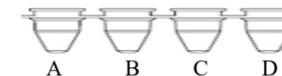

Figure 1 Diagram of the 4-tube-strip
2.1.1 Transfer the corresponding components in the kit and the Sample Release Reagent (Reference number: S1014E) manufactured by Sansure Biotech Inc. to the 4-tube-strip for use as shown in Figure 1.